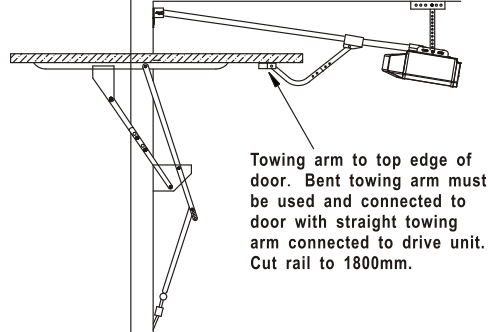
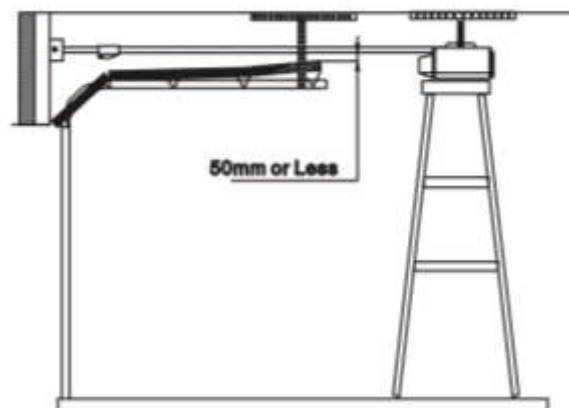

Fig 1B
Fig 7
- Raise the Power Head off the floor and rest it on a support high enough that the Drive Rail Assembly runs parallel to the ground. (Fig.7 depicts typical sectional type garage door installation for tip up door refer Fig.1B)
- Align the Drive Rail Assembly with the centerline of the garage door and securely fasten the Power Head to a structural member of the ceiling or roof using 2 lengths of vertically hung steel angle – normally 20mm x 20mm x 1mm. (Fig.7)
- Once mounted the Power Head and Drive Rail Assembly should sit parallel to the floor along both planes. (For Sectional and Track-Type Tilt Doors only. For Jamb-Type Tilt Door refer Fig 1B)
- a. **With the garage door in the fully open position, the underside of the Drive Rail Assembly should be no more than 50mm above the highest arcing point of the garage door for its entire length. (Fig.7)**